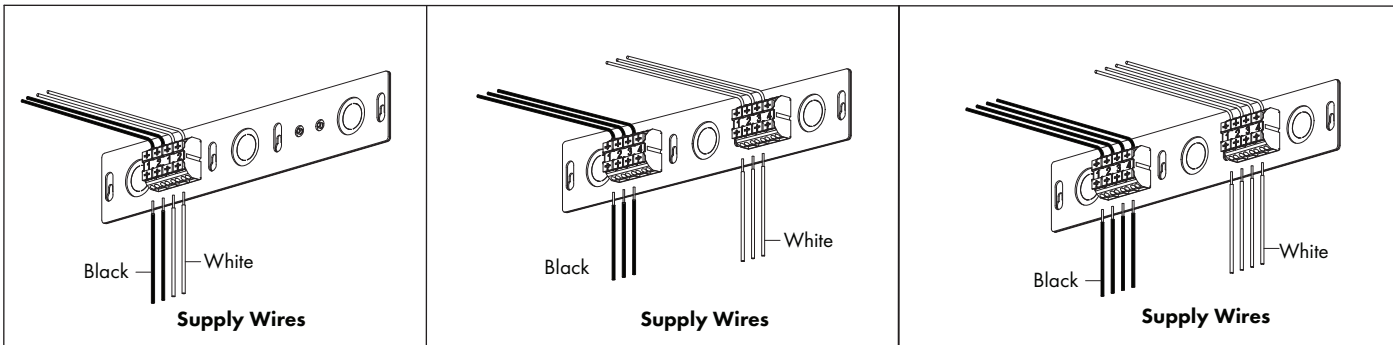

FIG 7.2 Attach Supply Wires
2. Make wire connections noting individual lamp circuit numbers – FIG 7.2 & 7.3.